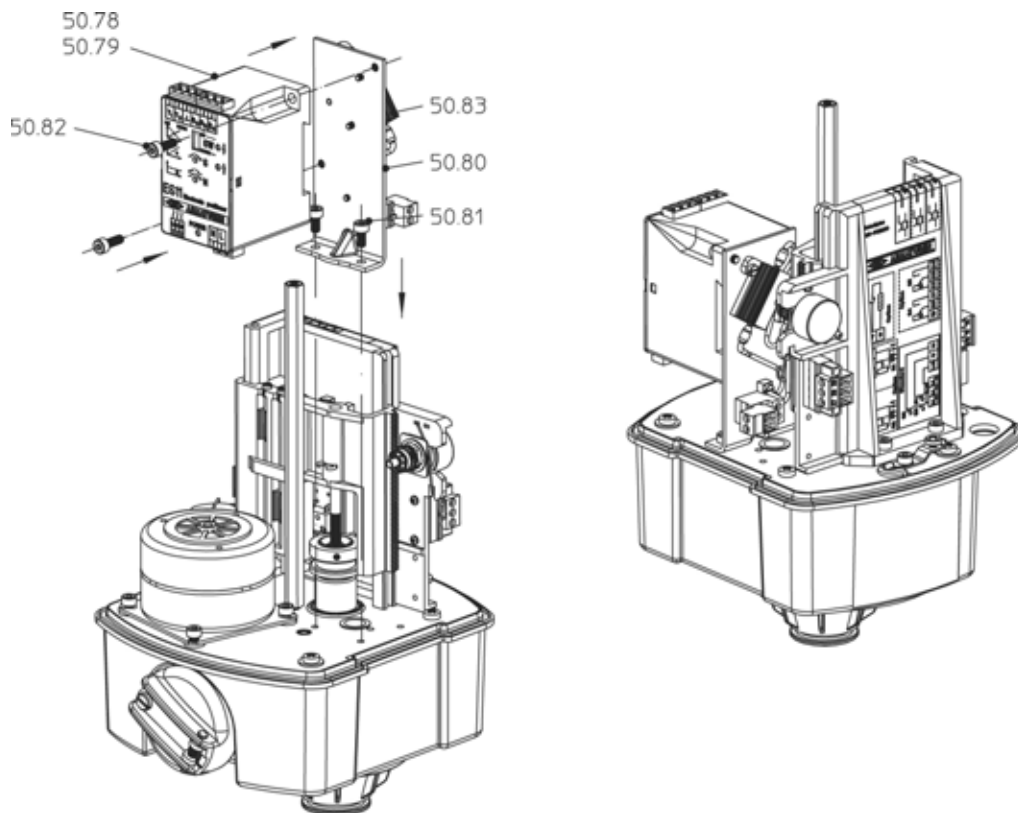

Fig. 17: Installation RI21 / ES11 / heating ARI-PREMIO® 2,2 - 5 kN
- Using the supplied screws, mount complete heating (on holding bracket) at the point on the gearbox cover plate provided for the purpose (Fig. 17).